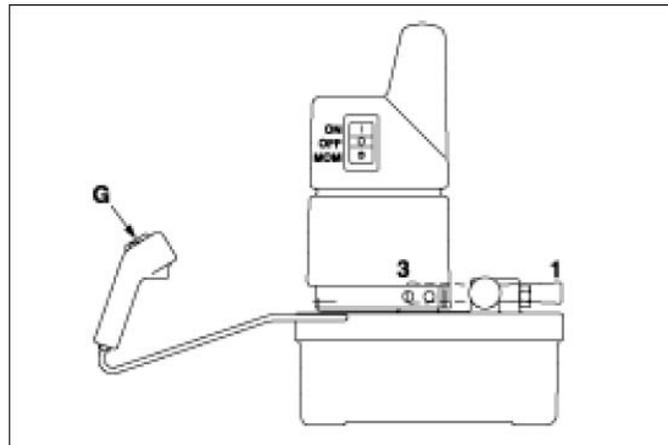

Figure 6
5.1 Switch Operation (Figure 6)